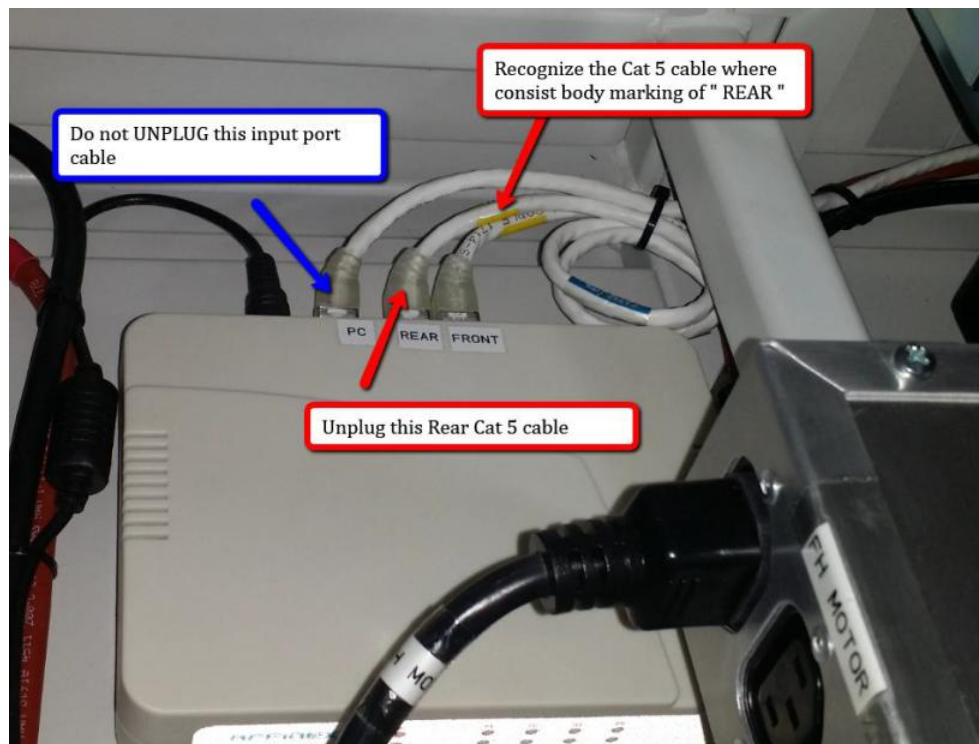

Figure 5 POE SWITCH CAT 5 CABLE
- Perform Marking at below cable and unplug 1 x REAR Cat 5 cable at POE SWITCH (which allocated at rear server area) as below Figure 5.